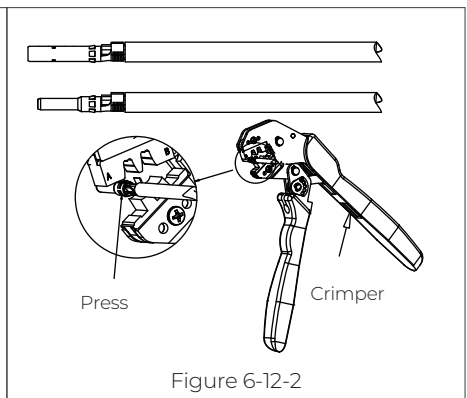

Figure 6-12-2
Step 3: Insert the positive and negative power cables into the positive and negative metal terminals separately. Crimp them tightly to ensure that the cable can not be pulled out. See Figure 6-12-2.